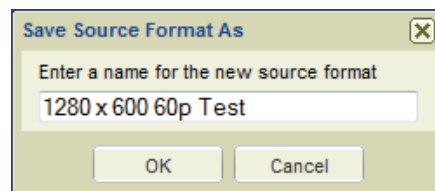

Figure 130. Saving a Source Format
17. Click **SaveAs** (④), to save the resolution.
18. In the **Save Source Format As** dialog box, enter a name for the new source format and click **OK** (see figure 130).